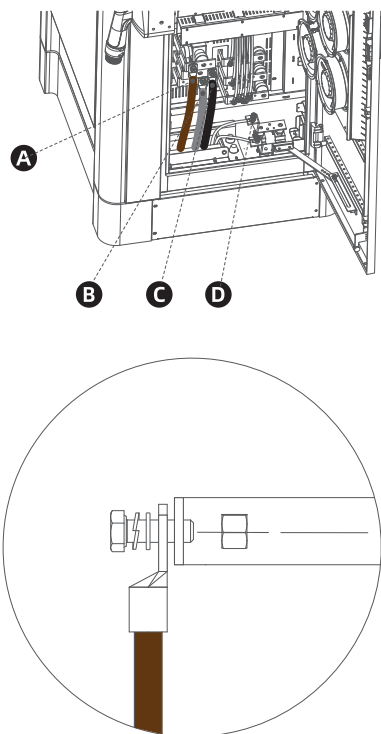

Figure 5-13 Connecting the AC Input Wires
- C.** Loosen the N terminal. (See figure 5-13)
- D.** Connect the N conductor to the N terminal marked with letter D. (See figure 5-13)